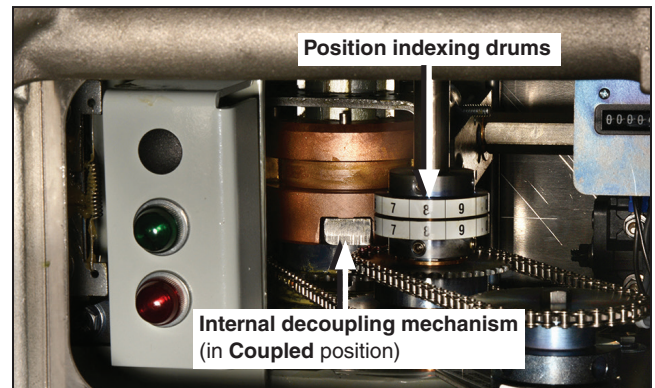

Figure 9. The decoupling mechanism and position indexing drums.
- STEP 1.** Make sure the internal decoupling mechanism inside the Mark VI CS-1A Switch Operator to verify it is in the **Coupled** position. See Figure 9. The SELECTOR handle should be tagged or padlocked.